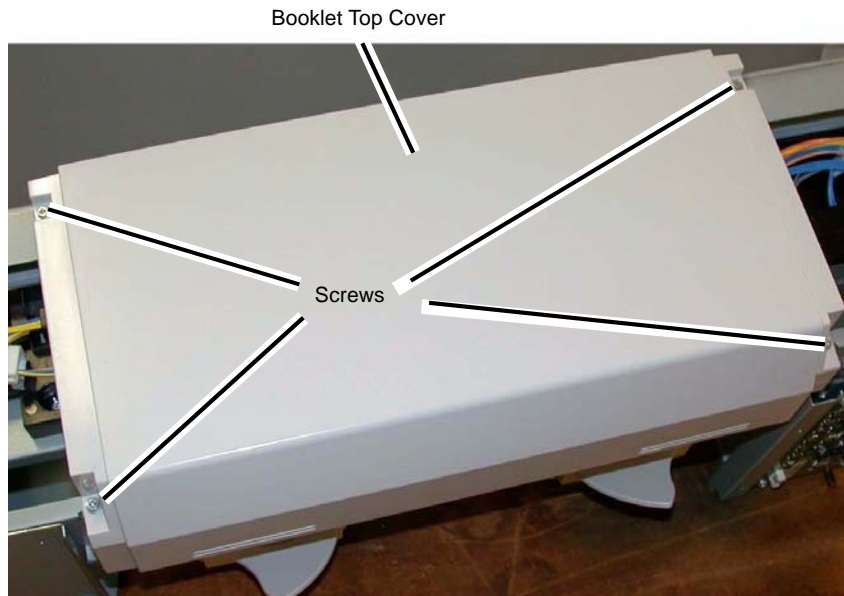

Figure 1 Removing the Booklet Top Cover
4. Remove the Booklet Top Cover (Figure 1).